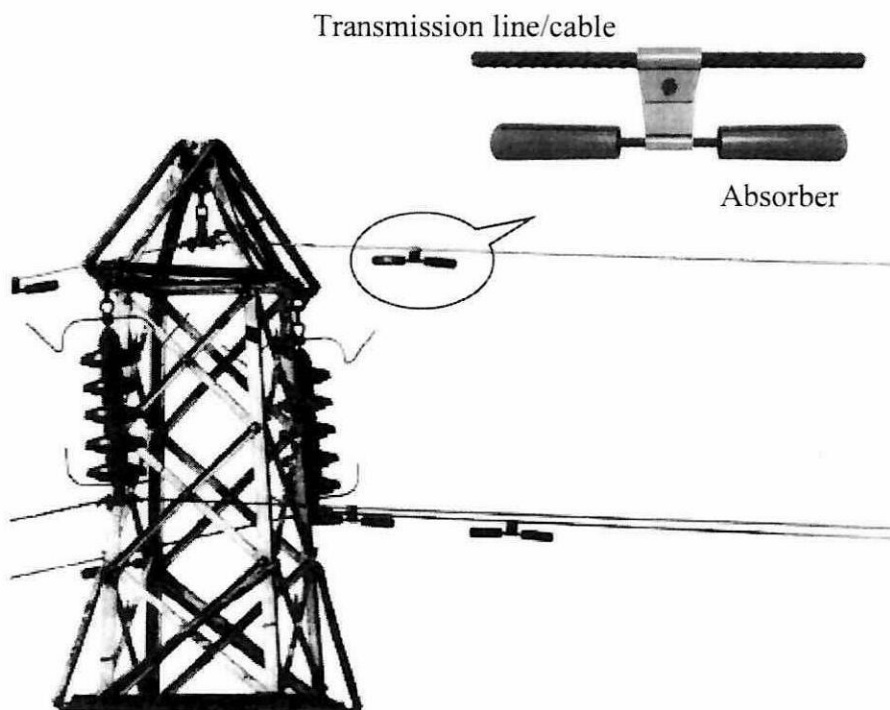

Figure Q3
**Q3** The cable of electrical transmission tower is designed to withstand a steady-state wind operating speed between 1000 and 2000 rpm. Unfortunately, due to a loose installation in the cable connection, a large violent vibration occurs at around 1500 rpm. An initial vibration absorber design as shown in **Figure Q3** is implemented with a mass of 2 kg tuned to 1500 rpm. This, however, causes the combined system natural frequencies to occur at  $\Omega_1 = 1250$  rpm and  $\Omega_2 = 1800$  rpm.